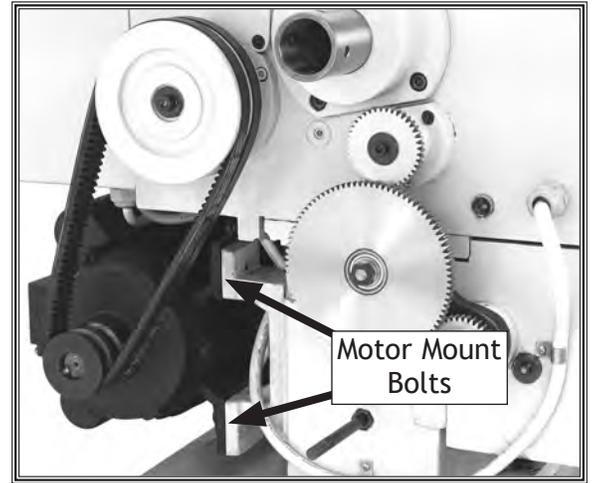

Figure 64. Motor mount and belt tension adjustment.
3. Loosen four motor mount bolts (**Figure 64**) and replace the belts as a matched set if required.